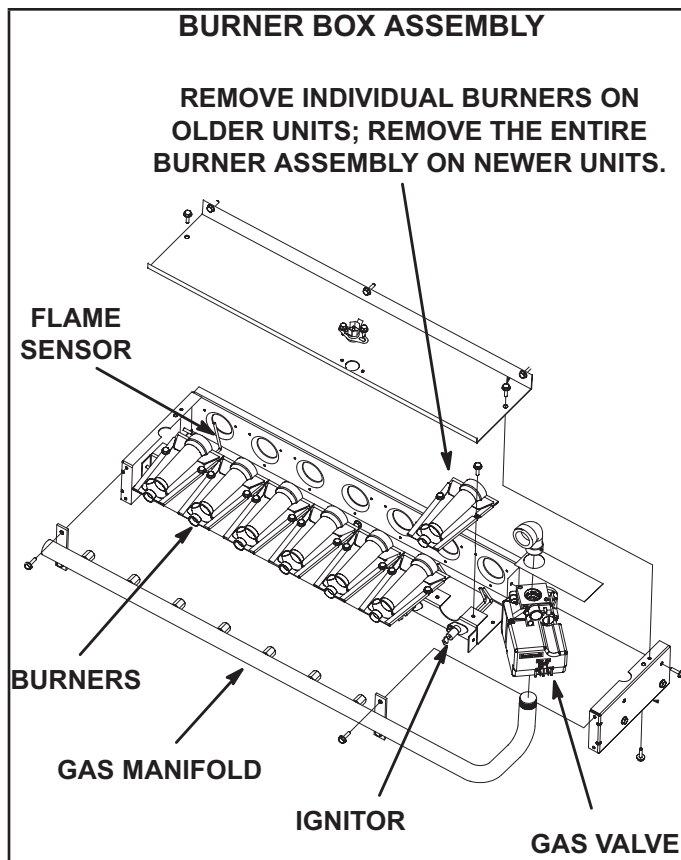

**FIGURE 32**
- 4 - Remove screws securing burners to burner support and lift the individual burners or the entire burner assembly from the orifices. See FIGURE 32. Clean as necessary.
- 6 - Replace burners and screws securing burner. See FIGURE 32.